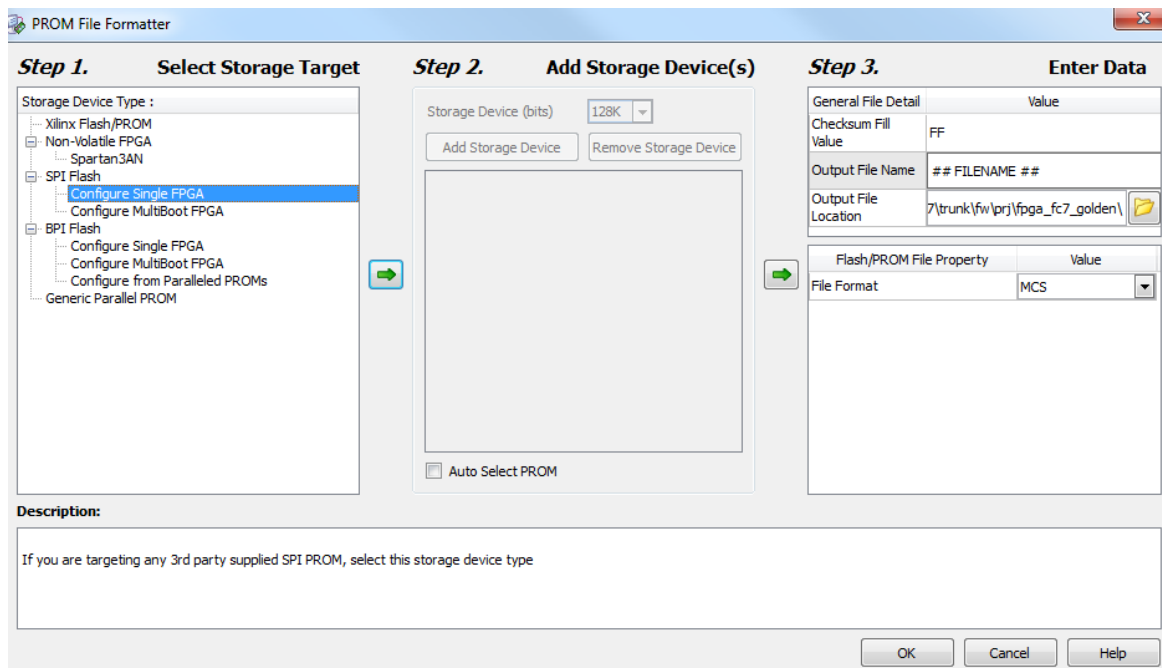

Figure 3-4: Binary file generation for indirect programming of FPGA via SPI Flash PROM
5. Using IMPACT (see Figure 3-4), create a PROM file, using the parameters: